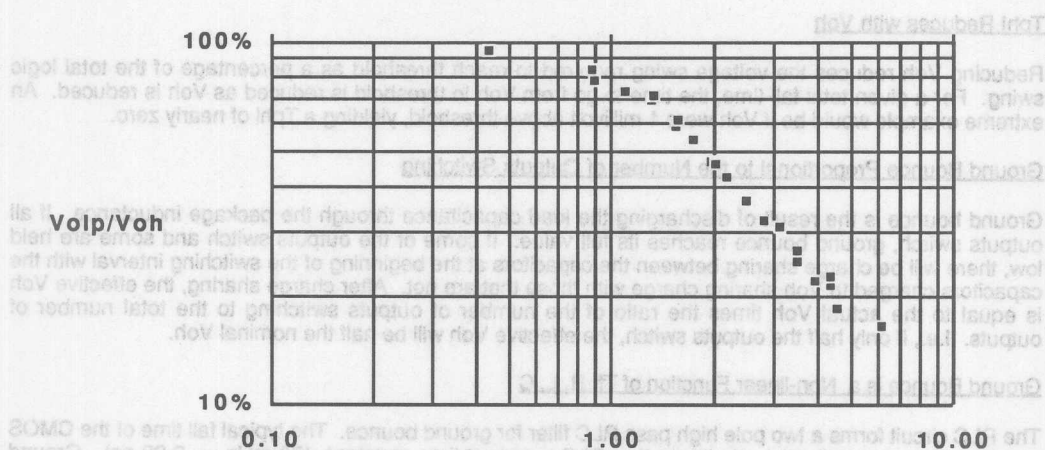
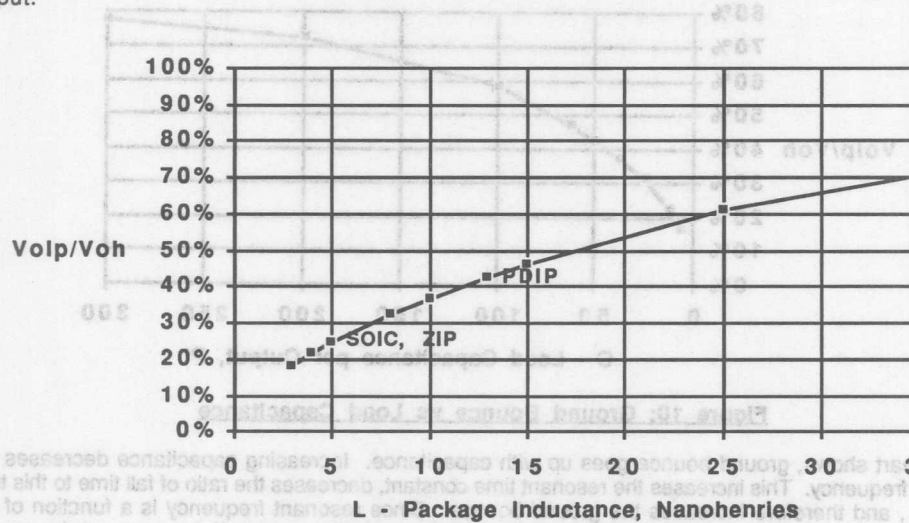

Figure 8: Ground Bounce vs Fall Time Relative to Resonant Time Constant
Figure 9: Ground Bounce vs Package Inductance
Figure 8 shows a plot of ground bounce voltage, V_{gb} , as a percentage of V_{oh} versus fall time as a fraction of the resonant time constant, i.e. T_f vs $1/2\pi\sqrt{LC}$. This is a plot for various values of package inductance (L), load capacitance (C) and fall time (T_f) with $R=5\Omega$ for the on resistance of the CMOS switch. Using the resonant frequency of the load capacitance and the package inductance allows the graph to be normalized for these various values.
Figure 8 is instructive as an overview, but it is more instructive to examine how we can affect ground bounce by varying specific parameters such as package inductance, etc. Figure 9 shows a plot of ground bounce versus package inductance for a fixed fall time of 5 ns and a fixed load capacitance of 50 pF per output.